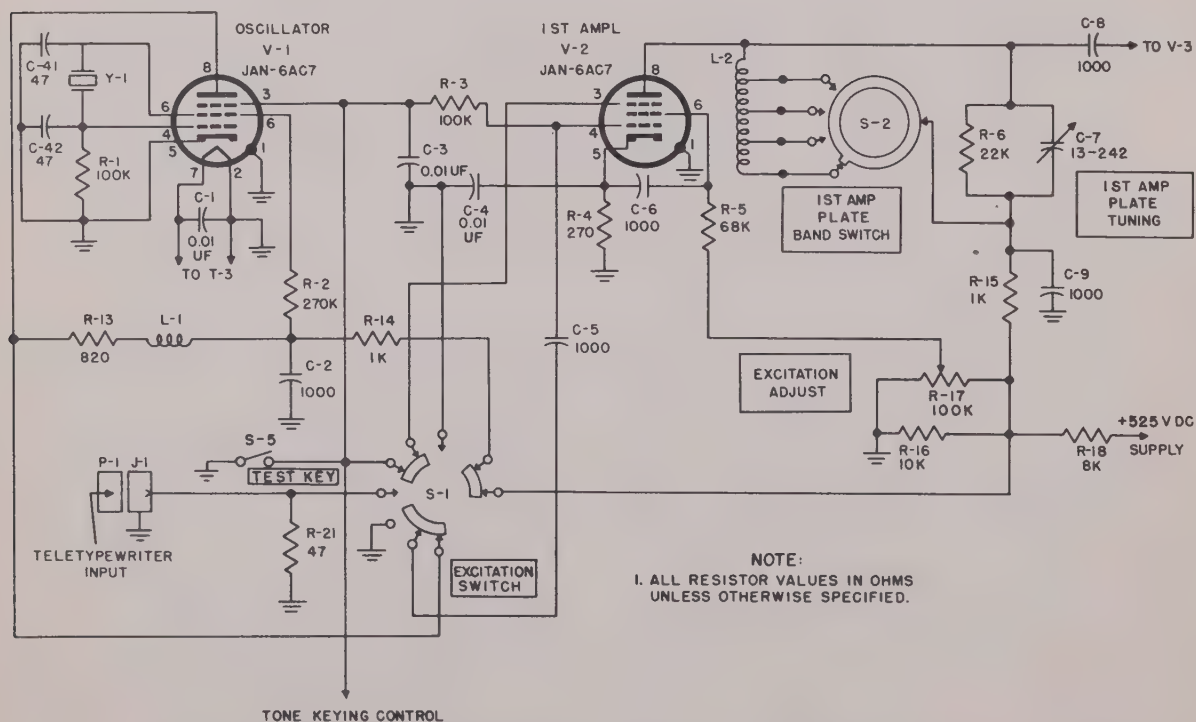

Figure 39. Radio Transmitter Model 96D, simplified schematic diagram of crystal-controlled oscillator and first r-f amplifier stages
52. Crystal Oscillator (fig. 39)
53. First R-f Amplifier (fig. 39)
c. The plate of V-2 works into a resonant circuit (fig. 39) composed of coil L-2 and variable capacitor C-7. The circuit may be adjusted so that its resonant frequency may be any frequency between 2.0 and 13.0 mc. This frequency range is divided into four major bands as determined by the positions of the 1st AMP PLATE BAND SWITCH, S-2. The switch connects sections of coil L-2 into the circuit so that at the lowest frequency, all of L-2 is in the circuit, and at the highest frequency, the smallest section of L-2 is in the circuit. Any frequency within each band is obtained by the adjustment of the 1st AMP PLATE TUNING capacitor, C-7. When a frequency higher than 6.5 mc is desired, frequency doubling takes place in this tank circuit. The circuit is tuned to twice the input frequency,